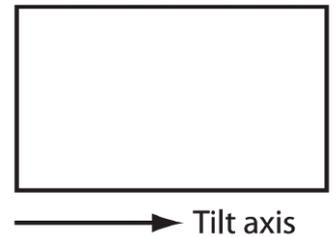

Figure 1. Schematic overview of the Si sample with the cleaved edge parallel to the tilt axis.
For most systems, you should do a routine calibration if the Working Distance or Camera Position are changed. Only calibrate on a known sample with a known orientation as the Si sample. The standard Si sample supplied has the orientation (001) $\langle 110 \rangle$. Align it such that the cleaved edge is parallel to the tilt axis (Figure 1).